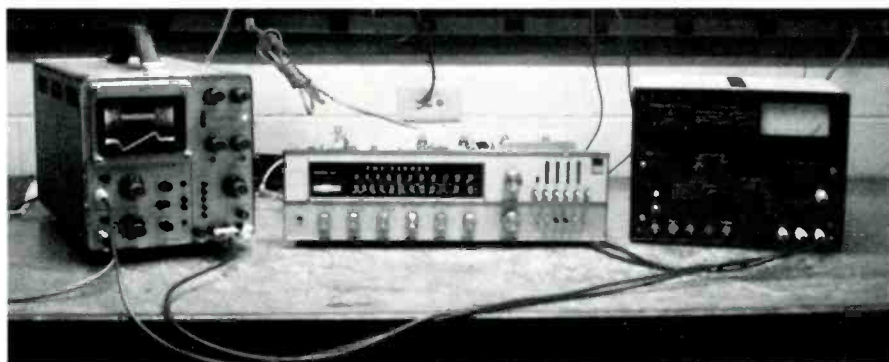

Fig. 1—Receiver and instruments used for observing FM characteristic waveforms.
used this instrument to supply the desired frequency-modulated (FM) signal to the antenna terminals of a Fisher 500 receiver, observing the resulting waveforms on a Telequipment Type D54 dual-trace scope (Fig. 1).